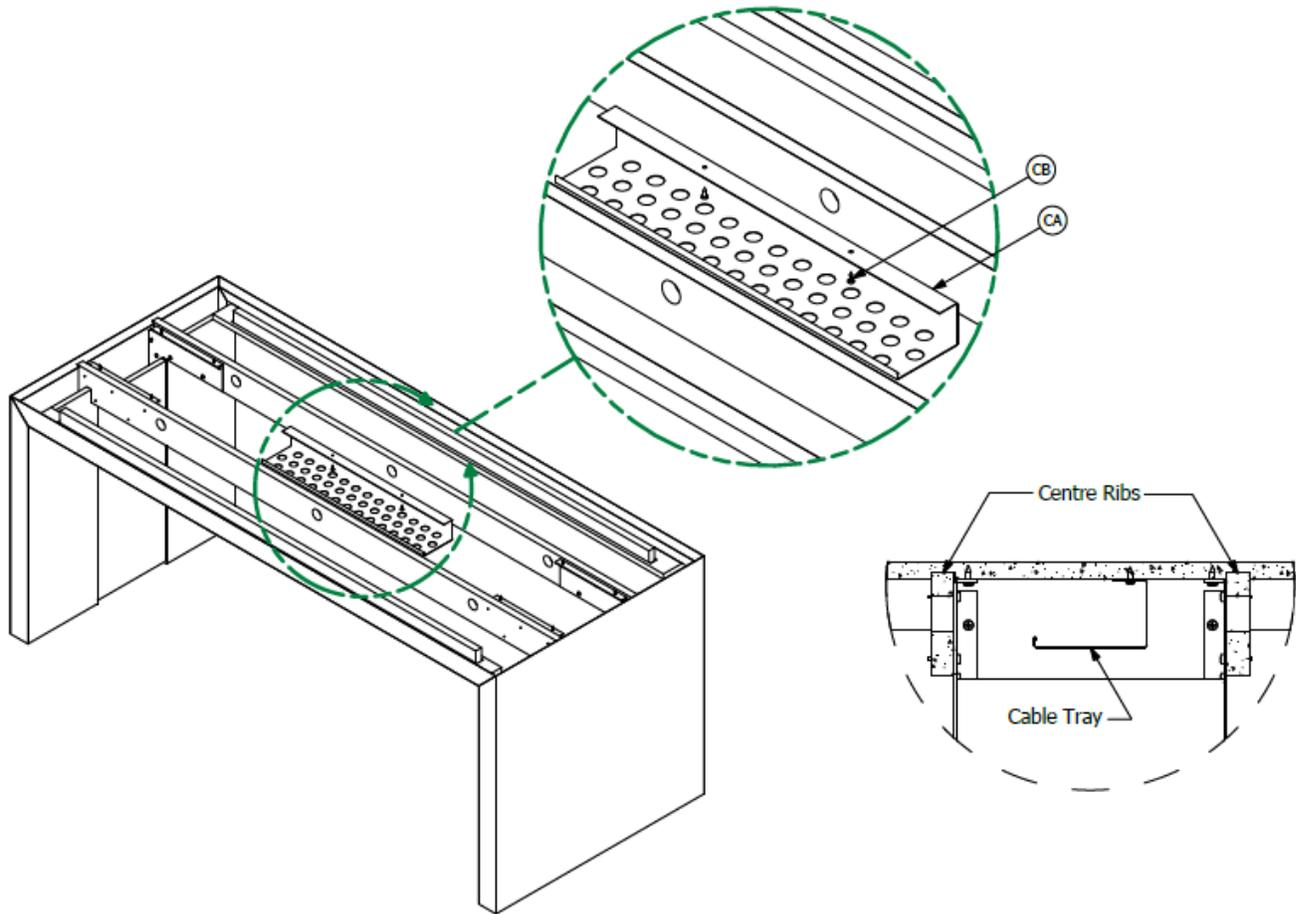

Fig. 12: Cable Tray Install
4.1.1 Using a #2 Phillips Driver, secure Cable Tray (CA) using fastener (CB) under the top, between the Centre Ribs. Cable Tray can be positioned anywhere along the length of the table to best suit your application but centred usually works best. [Fig 12]